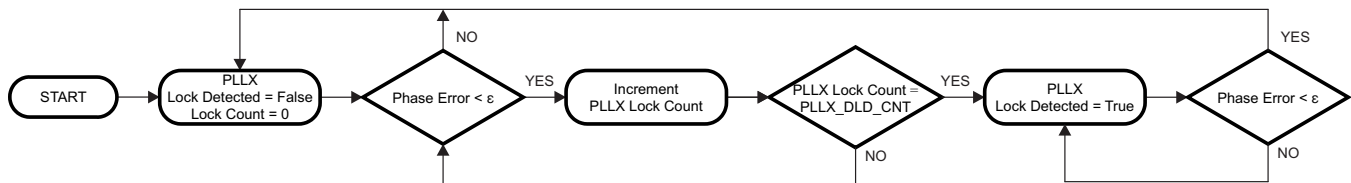

Figure 7-1. Digital Lock Detect Flowchart
Both PLL1 and PLL2 support digital lock detect. Digital lock detect compares the phase between the reference path (R) and the feedback path (N) of the PLL. When the time error, which is phase error, between the two signals is less than a specified window size (ϵ) a lock detect count increments. When the lock detect count reaches a user specified value lock detect is asserted true. Once digital lock detect is true, a single phase comparison outside the specified window will cause digital lock detect to be asserted false. This is illustrated in Figure 7-1.